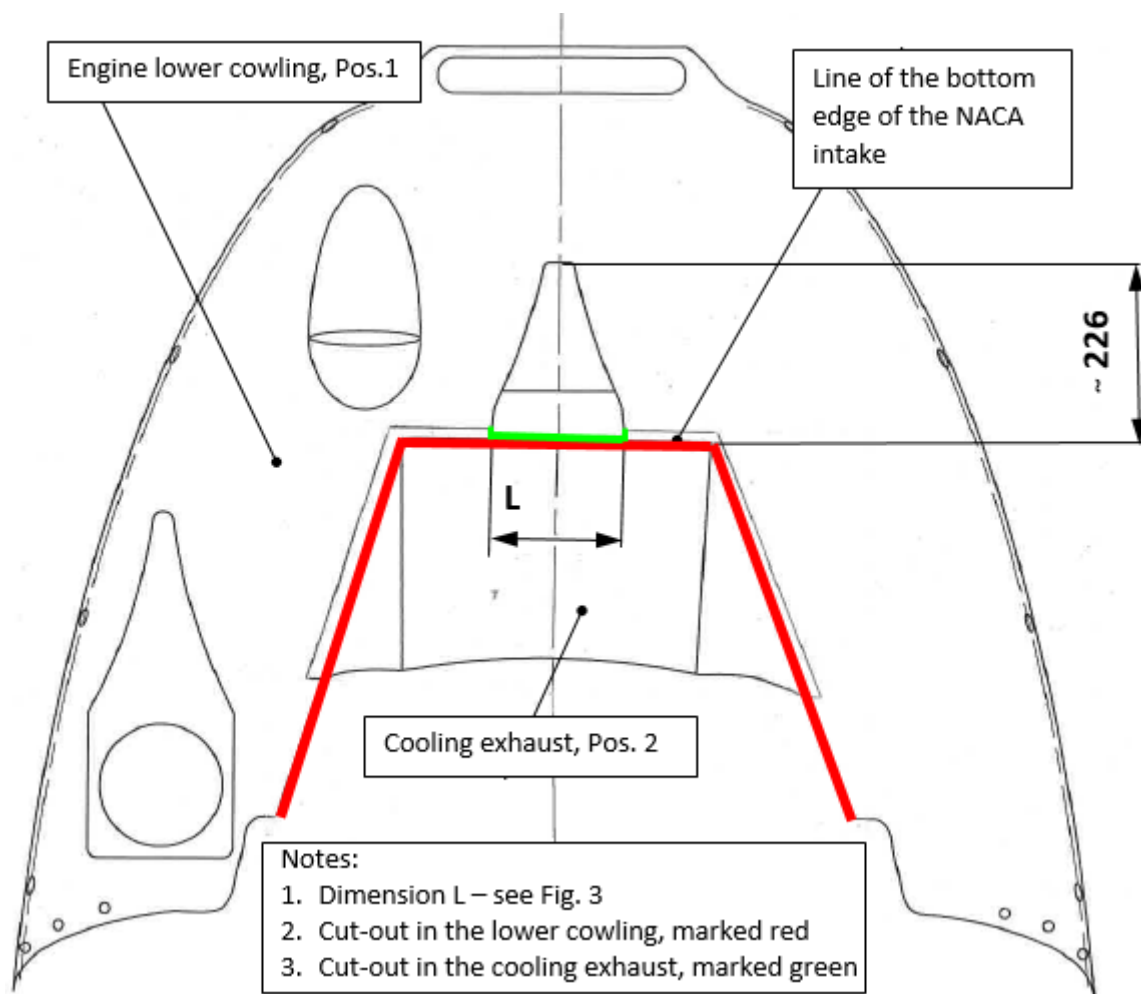

Figure 9: Cut-out in engine lower cowling position of the new cooling exhaust
It is necessary to draw the cut-out contour in the engine lower cowling for the new cooling exhaust installation according to the position of the exhaust set and attached to the engine lower cowling by cleco fasteners. Dimensions and shape of the cut-out must comply both according to the Fig. 9 as well as according to the dimensions and shape of the new cooling exhaust without the edges that will be glued to the inside of the engine lower cowling.
12. Set, fix (by using cleco fasteners) and glue the new cooling exhaust into the engine lower cowling in such a way that edges of the exhaust lie on the inner surface of the lower cowling (see Pos. 1, 2 in Fig. 9 and see Fig. 12, 13, 14). Apply a vaseline on cleco fasteners for separation before using them. Immediately after gluing and fixing the new cooling exhaust to the engine lower cowling install the lower and engine upper cowling onto the aircraft, including locking the CAMLOCK lockers. Do not connect the disconnected hoses. Let the glued connection harden. Time for hardening should be set according to technical sheet of the adhesive used.
16. Seal up the joints between the engine lower cowling and the new cooling exhaust on the outer surface of the engine lower cowling. Seal up also the technological holes made in the cowling and in the new exhaust. Grind the sealant after it gets hardened in order to match with the outer surface of the engine lower cowling (see Pos. 1, 2 in Fig. 9, see Fig. 12, 16).